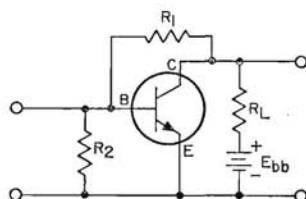
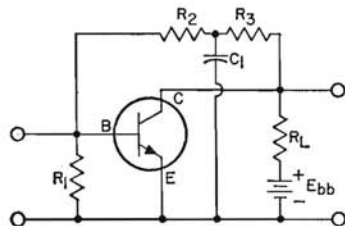

Figure 32. Bias network using voltage-divider arrangement for increased stability.
Figure 34. Bias network using split voltage-divider network.
In the bias method shown in Fig. 32, the voltage-divider network composed of  $R_1$  and  $R_2$  provides the required forward bias across the base-emitter junction. The value of the base bias is determined by the current through the voltage divider. Any change in collector current
In Fig. 34, the  $R_2R_3$  voltage-divider network is split, and all ac feedback currents through  $R_3$  are shunted to ground (bypassed) by capacitor  $C_1$ . The value of  $R_3$  is usually larger than the value of  $R_2$ . The total resistance of  $R_2$  and  $R_3$  should equal the resistance of  $R_2$  in Fig. 32.
**Direct coupling** is used primarily when cost is an important factor. (It should be noted that direct-coupled amplifiers are not inherently dc amplifiers, i.e., that they cannot always amplify dc signals. Low-frequency response is usually limited by other factors than the coupling network.) In the direct-coupled amplifier shown in Fig. 37b, resistor  $R_3$  serves as both the collector load resistor for the first stage and the bias resistor for the second stage. Resistors  $R_1$  and  $R_2$  provide circuit stability similar to that of Fig. 32 because the emitter voltage of transistor  $Q_2$  and the collector voltage of transistor  $Q_1$  are within a few tenths of a volt of each other.